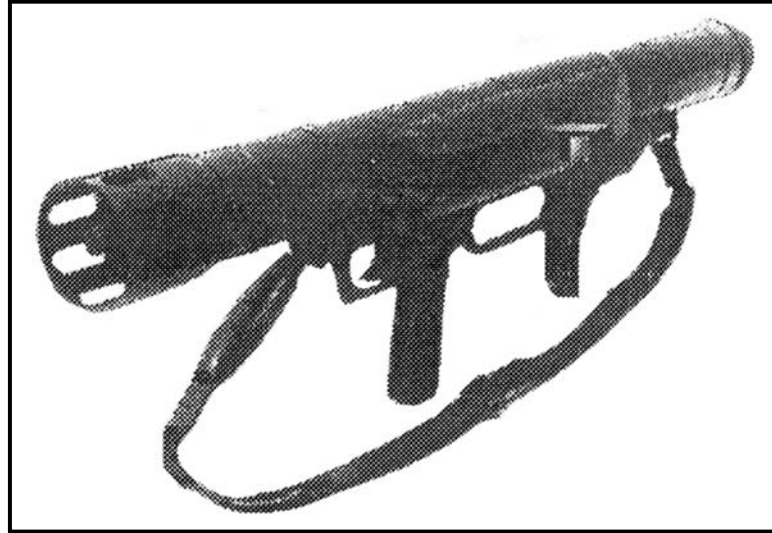

Figure H-9. German 67-mm disposable antitank grenade launcher, Armbrust.
d. **German 67-mm Disposable Antitank Grenade Launcher, Armbrust** (Figure H-9, page H-8).